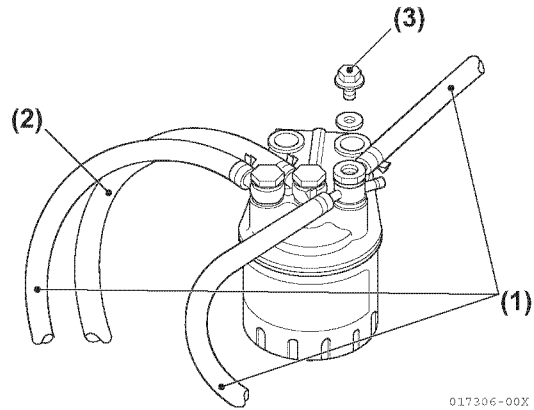
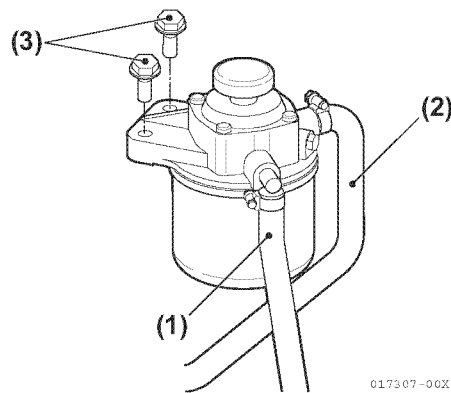
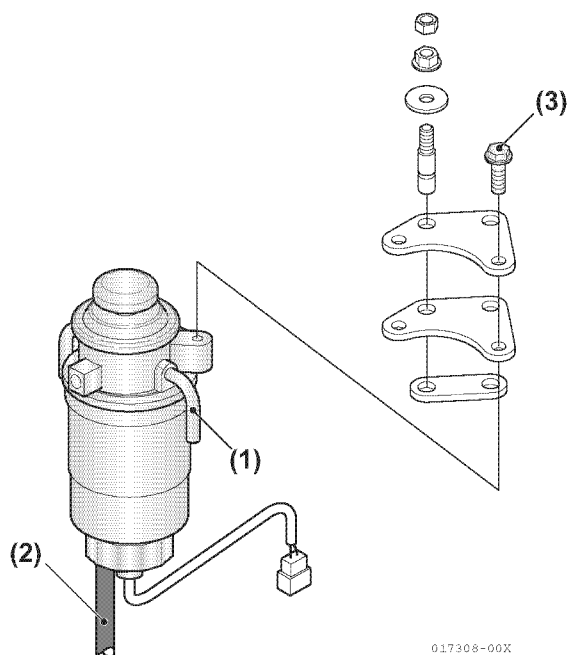

Figure 6-39
Figure 6-40
Figure 6-41
3. Loosen inlet (Figure 6-39, (1)), (Figure 6-40, (1)), (Figure 6-41, (1)) and outlet (Figure 6-39, (2)), (Figure 6-40, (2)), (Figure 6-41, (2)) hose clamps and remove hoses from filter.
4. Remove bolts (Figure 6-39, (3)), (Figure 6-40, (3)), (Figure 6-41, (3)).